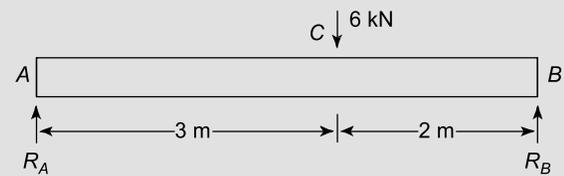

Figure 7.4
**Problem 1.** Calculate and sketch the bending moment and shearing force diagrams for the horizontal beam shown in Figure 7.4, which is simply supported at its ends.
As there is a discontinuity at point  $C$  in Figure 7.4, due to the concentrated load of 6 kN, it will be necessary to consider the length of the beam  $AC$  separately from the length of the beam  $CB$ . The reason for this is that the equations for bending moment and shearing force for span  $AC$  are different to the equation for
In the case of the beam of Figure 7.4, bending moment distribution between  $A$  and  $C$  is given by equation (7.1), i.e.  $M = 2.4x$ , where the value of  $x$  varies between  $A$  and  $C$ .
In the case of the beam of Figure 7.4, the shearing force distribution along its length from  $A$  to  $C$  is given by equation (7.2), i.e.  $F = 2.4$  kN, i.e.  $F$  is constant between  $A$  and  $C$ . Thus the shearing force diagram between  $A$  and  $C$  is given by the horizontal line shown on the left of  $C$  in Figure 7.9(b).